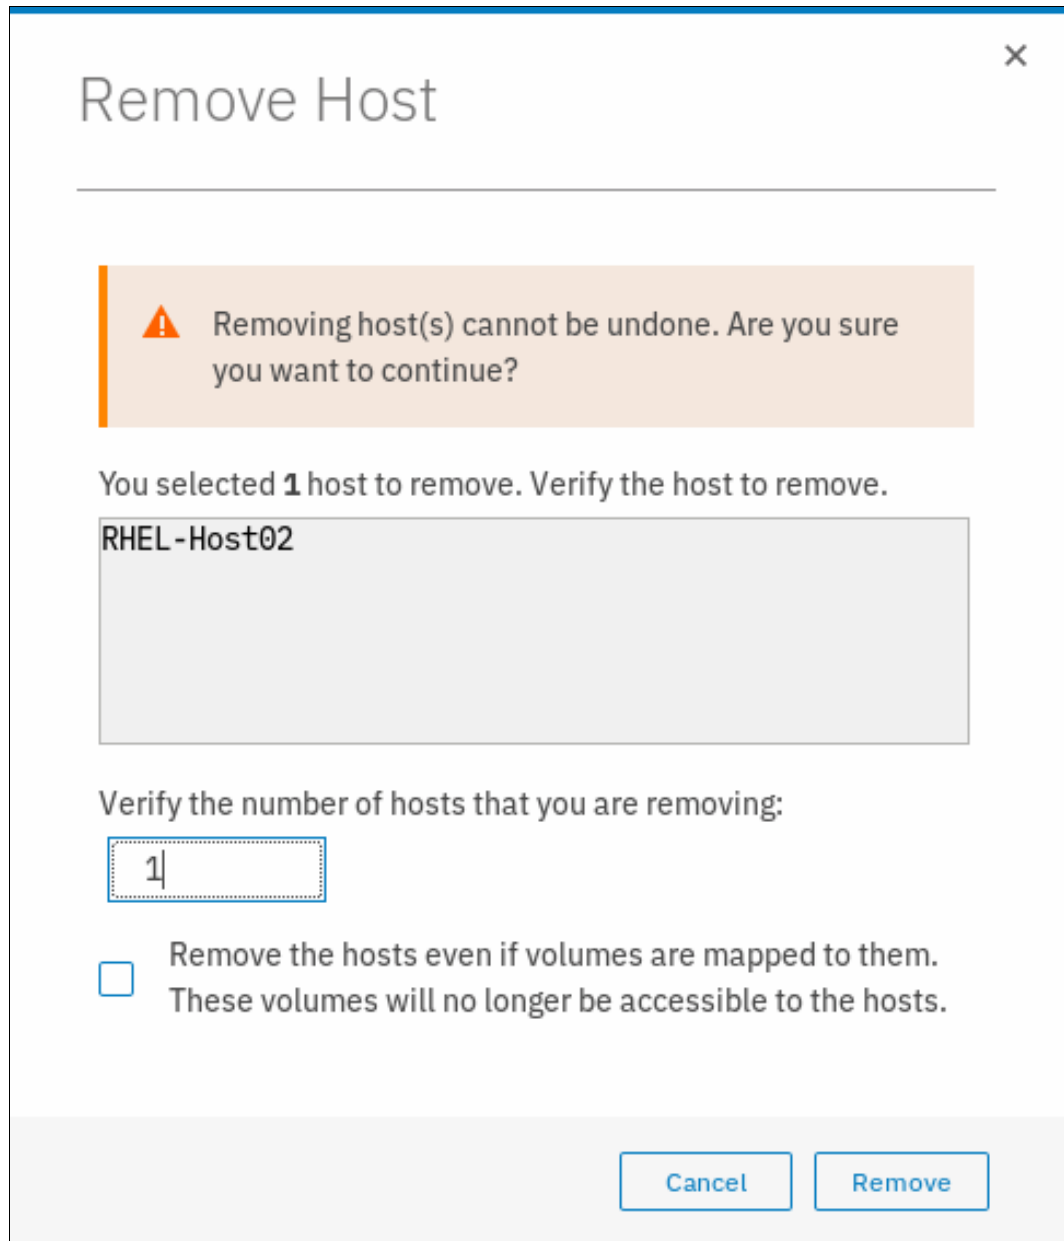

Figure 8-20 Removing a host
3. Verify the number of hosts you are removing, along with confirmation to remove the host even if the host includes mapped volumes, as shown in Figure 8-20.